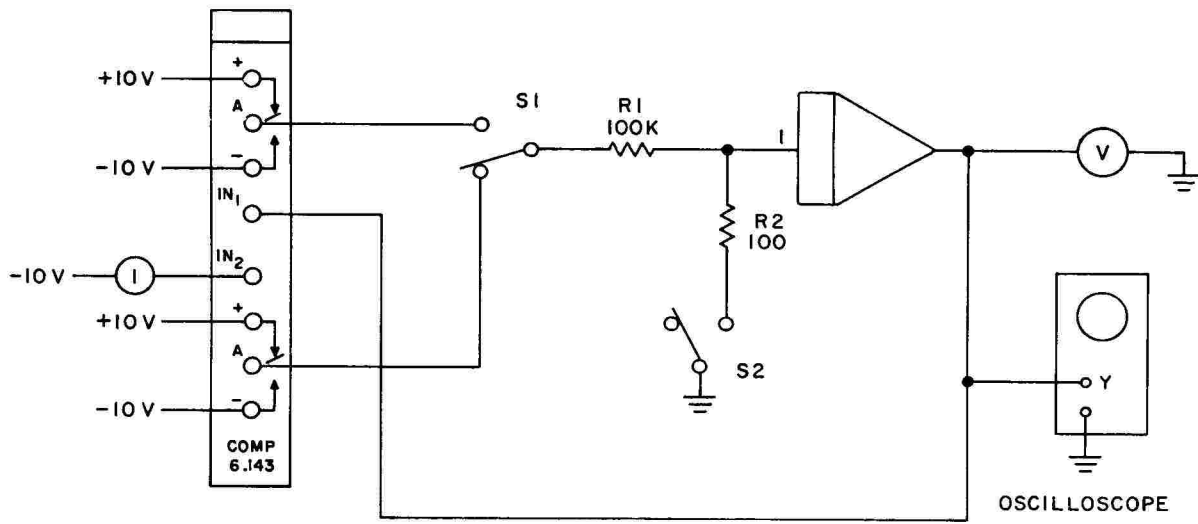
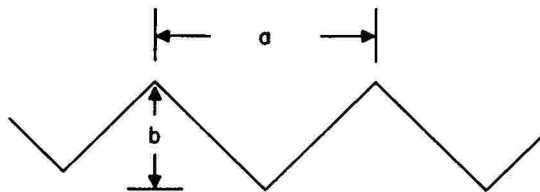

Figure 42. Sensitivity and Switching Time Test Circuit
Figure 43. Test Waveform
(2) Sensitivity. The sensitivity and switching time of the Relay Comparator are checked by means of the circuit in Figure 42. Proceed as follows:
- (b) Switch the computer to OPERATE and adjust coefficient potentiometer number one until the voltmeter (VM) reads zero. At this point, the comparator relay arms should begin to oscillate between the plus and minus contacts.
- (c) The oscilloscope should display a waveform similar to the one in Figure 43. On the display, the zero level represents the time when the relay should switch. The positive and negative peaks represent actual switching times. Thus the difference between the zero level and the adjacent peak represents the switching time. For convenience, the switching time may be calculated as $1/4$ the time between any pair of adjacent peaks (i.e., $a/4$) since this technique eliminates the need for determining the zero level.
- (e) The oscilloscope waveform again should be similar to Figure 43. Distance "b" represents the switching sensitivity.